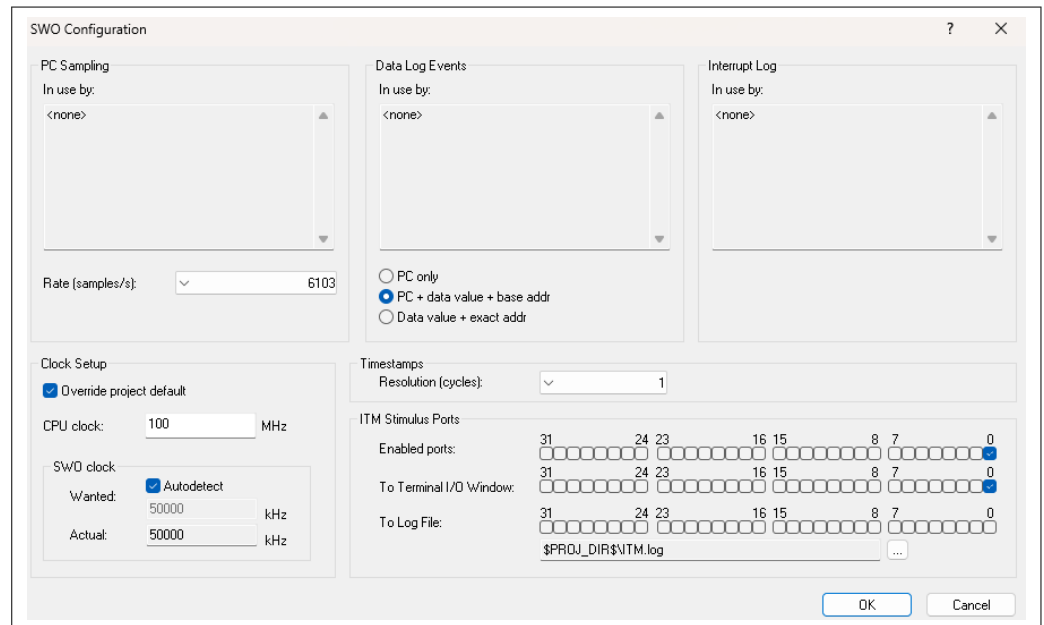

Figure 20 SWO Configuration
- b. Go to **J-Link> SWO Configuration** and configure it as shown in Figure 20